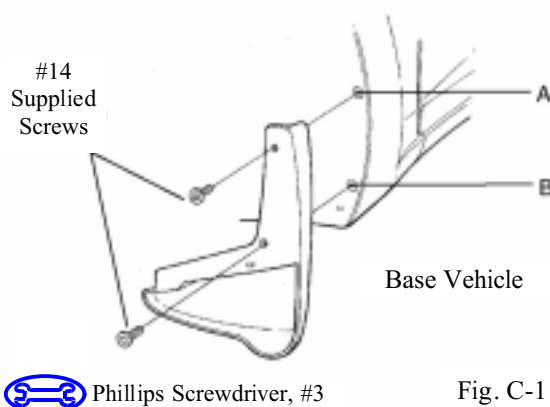

Fig. C-1
1. Mount mudguard on body panel and install supplied #14 screws in location A and B while holding part tight against body (Fig. C-1).